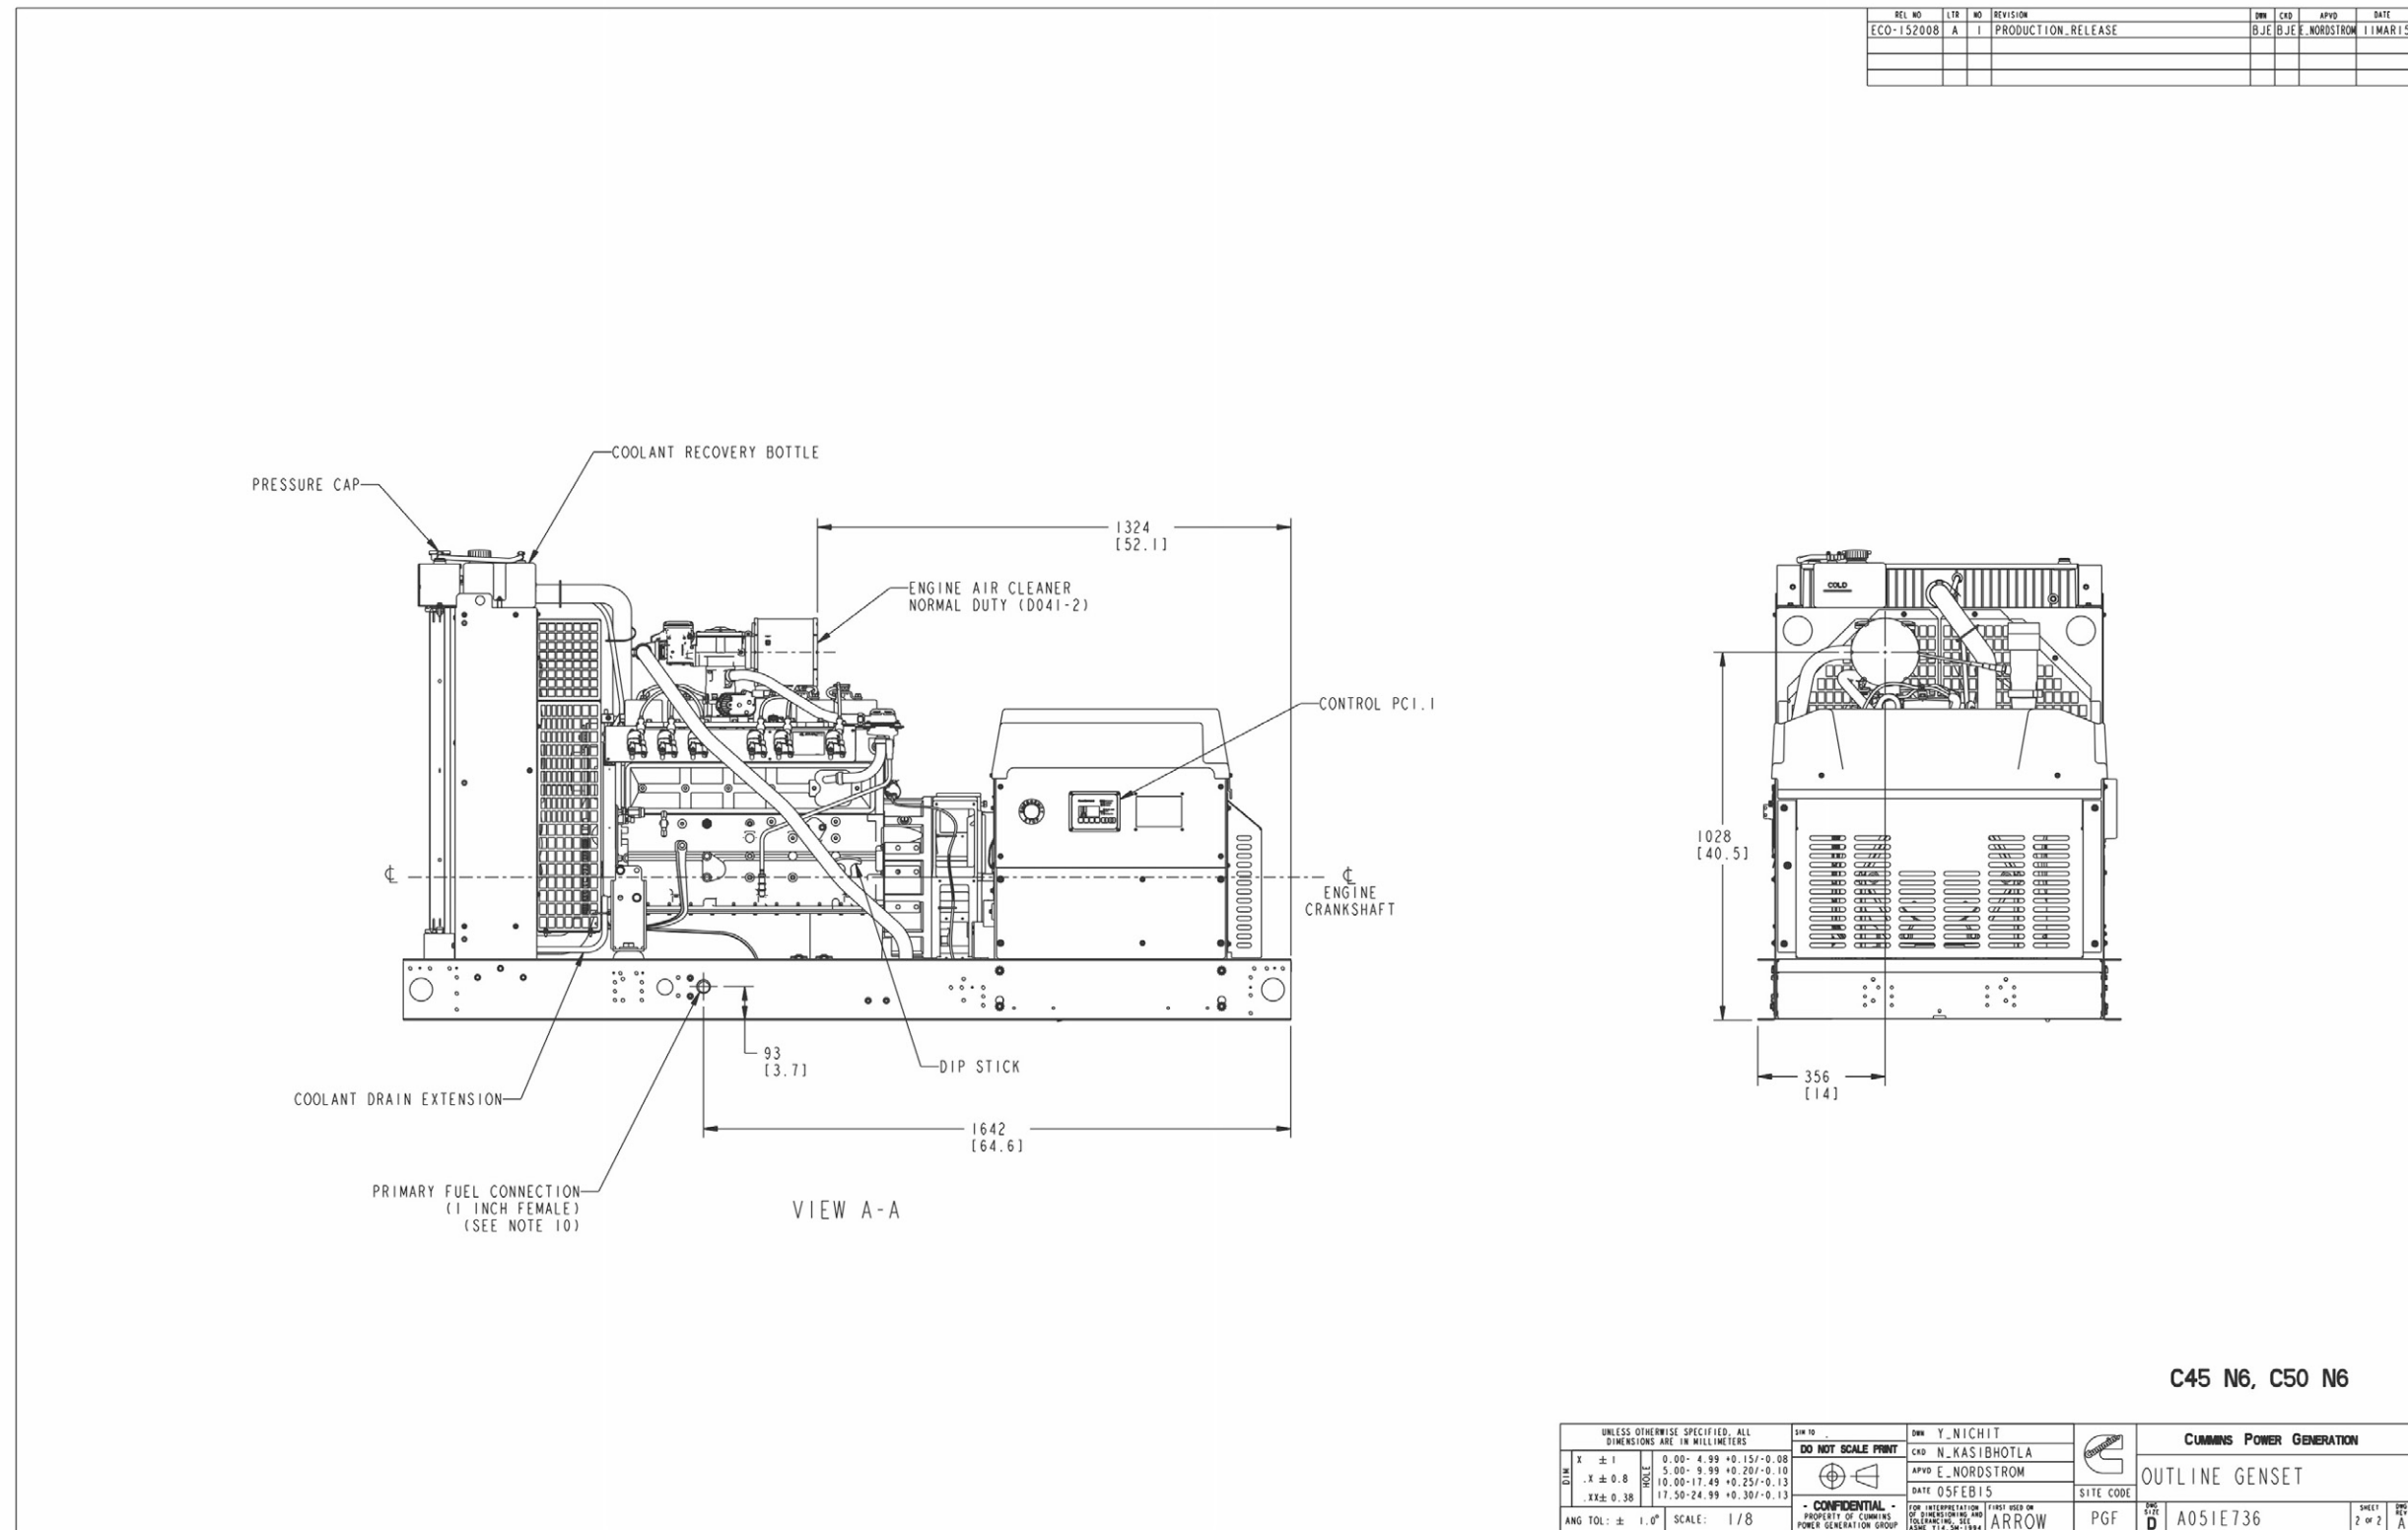

FIGURE 34. GENERATOR SET OUTLINE, 45-50 KW (SHEET 2 OF 2)
- Figure 34. Generator Set Outline, 45-50 kW (Sheet 2 of 2) 106